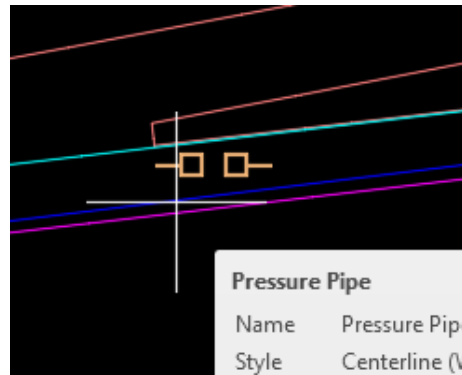

Figure 8.18 – Connection glyph example
3. Jump back down to our model and click on our PPN – Domestic Water Main pressure network in the desired location. Note that to ensure we have a proper connection established, we'll want to hover over the location where we intend to insert our 6" x 6" tee fitting, at which point we should see a connection glyph (similar to that shown in *Figure 8.18*).